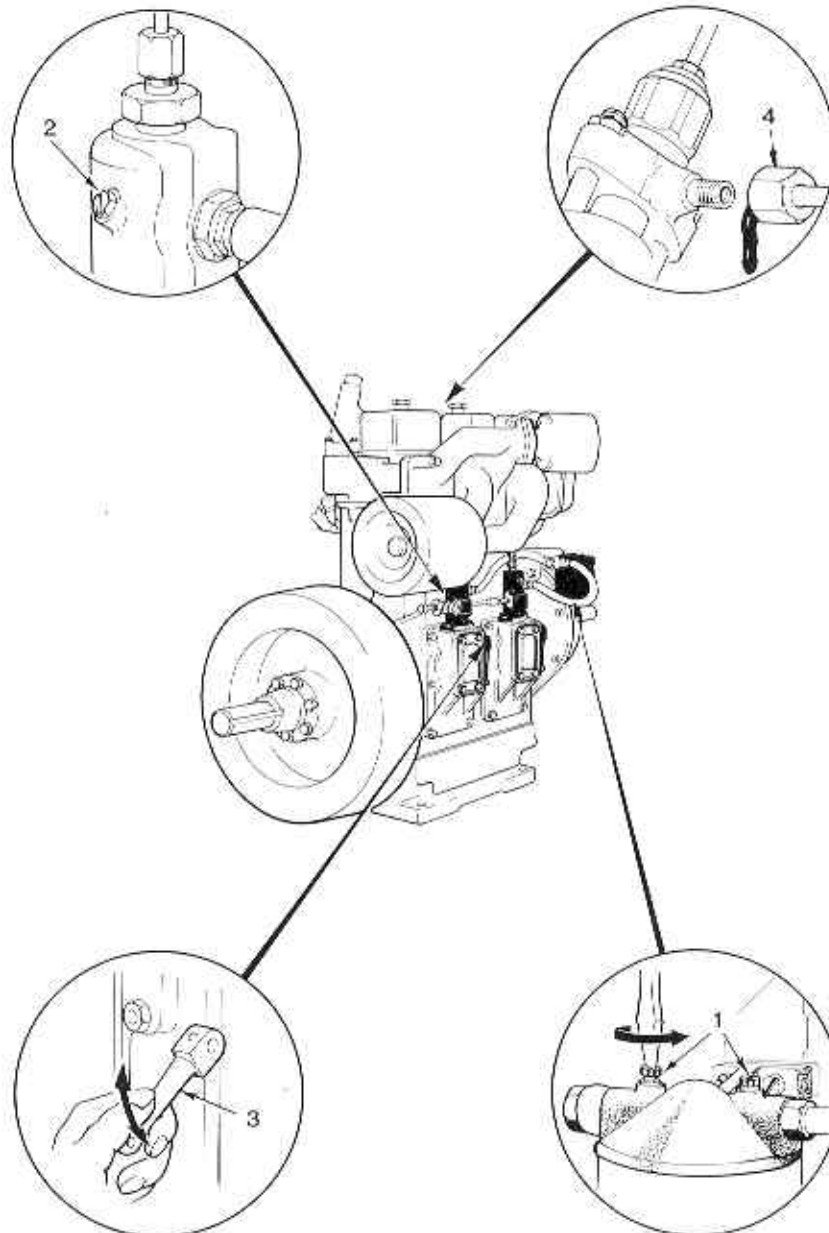

Figure 1.2 Bleeding and Priming the Fuel System
1.18 To bleed and prime the fuel system, each cylinder (in the case of multi cylinder engines) must be done in turn. The flywheel TDC mark must be set for the appropriate cylinder about half a revolution away from the pointer before top dead centre. If a fuel lift pump is fitted fuel will not flow unless the fuel lift pump priming lever is operated. With reference to Figure 1.2 carry out the following procedure: